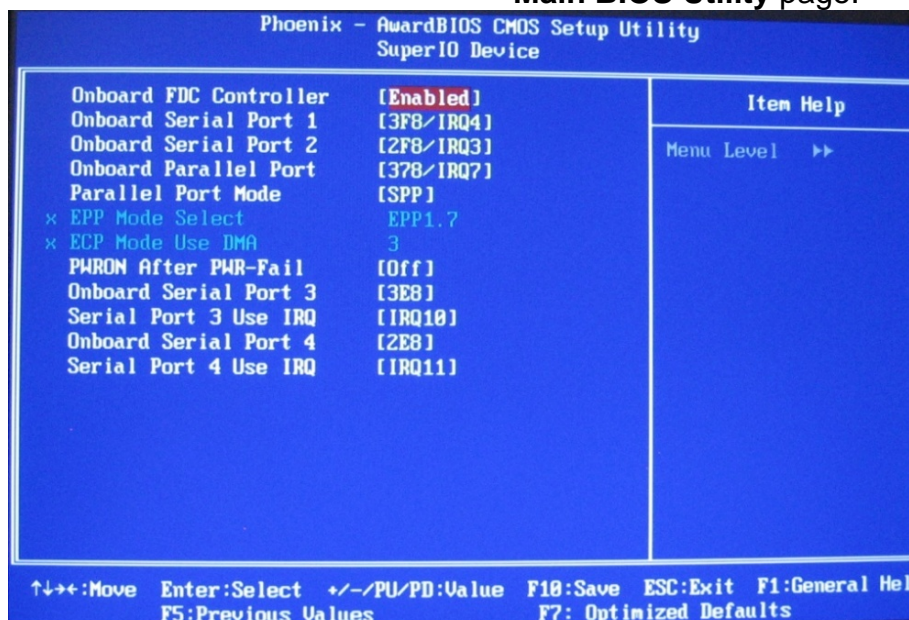

Figure 7-31 Clear NURAM
21. On the **Super IO Device** page. **No Change**. Press **Enter**. (Figure 7-31).